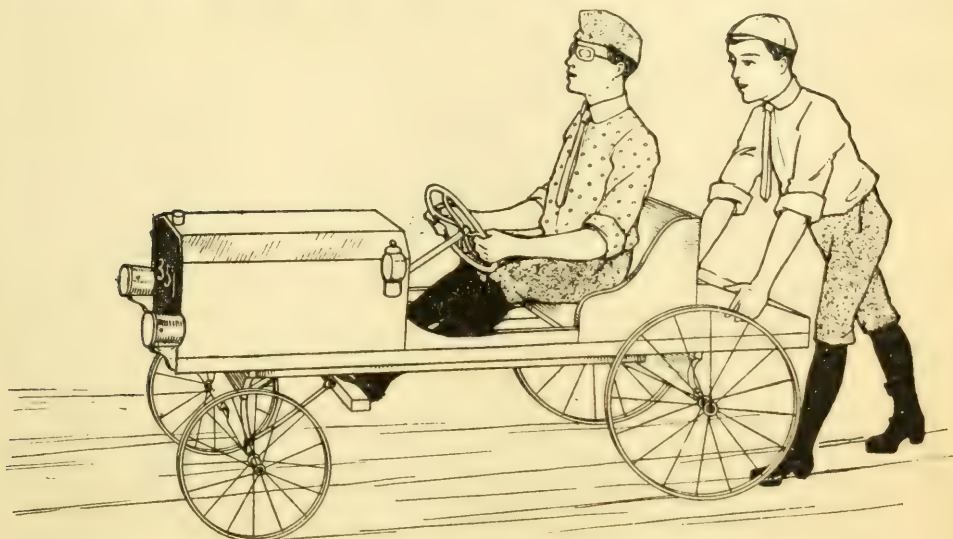

FIG. 458. — A Pushmobile.
**A Pushmobile** is a unique form of home-made wagon that has been developed from the simple wagons which the boys used to make for coasting, and for pushing from behind, when the automobile was unknown. It is patterned as nearly as possible after an automobile, and it is pushed by the mechanic, who runs behind, while the driver rides and attends to the steering. Working details for making one of these unique wagons are shown in Figs. 458 to 471.
Now, boys, if you have not become fired with enthusiasm after reading the above accounts of the work of the Flushing Pushmobile Club, the author has missed his guess; if you *have*, get to work and construct a machine like the one shown in Fig. 458 and described upon the following pages, then show it to your boy friends, and the
The **Hood** is made out of a box with the cover and bottom removed, and a three-sided top constructed upon it. If you cannot find a box of the right size, you can cut down a large box or build the hood out of boards. Figures 458
and 467 show the shape of the top. Fasten a small pill box to the top of the hood, as shown, for the cap to the "radiator" (Fig. 458).